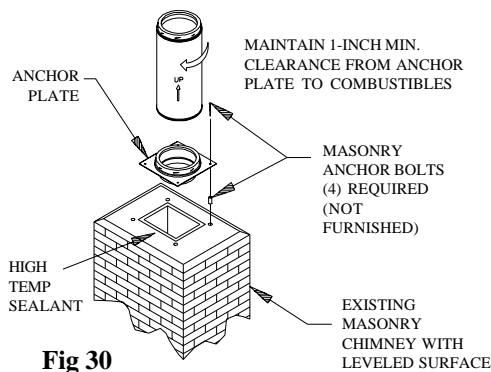

Fig 30
2. Mount Anchor Plate: Chimneys for masonry fireplaces begin with an Anchor Plate. Make sure the surface of the masonry chimney has a level surface on which to attach the Anchor Plate. If the top of the masonry does not have a level surface, then you will need to modify the masonry accordingly. Center the Anchor Plate over the masonry flue opening, and seal the Anchor Plate with a high-temperature (1000°F) sealant. Secure Anchor Plate with (4) 1/4" x 2" masonry anchors (Fig 30). It is very important that the Anchor Plate is level. Be sure to maintain a 1" min. clearance to combustibles from the Anchor Plate.